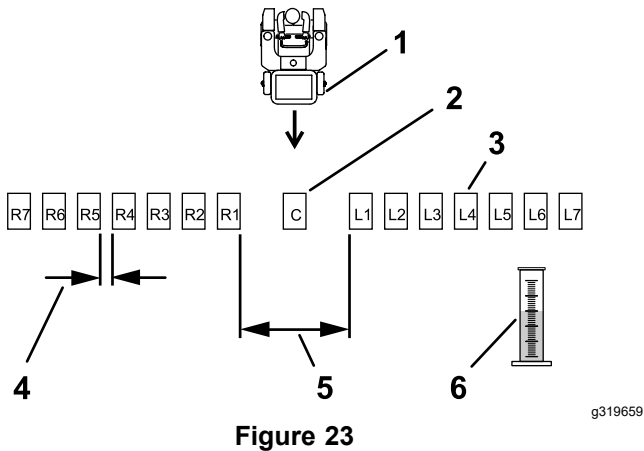
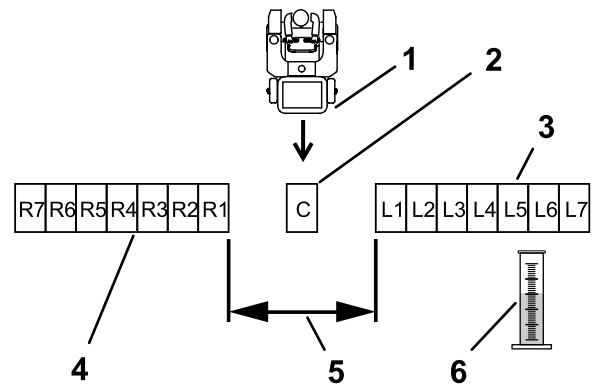

Figure 23
Figure 24
- Place the remaining pans in a straight line as shown in Figure 23 or Figure 24.
Space six additional pans, on each side, 30 cm (12 inches) apart as shown in Figure 23.
Place six additional pans, on each side, with no gap in between each pan (Figure 24).
- Label each graduated measuring cylinder to correspond with the distribution pans (i.e. ...L2, L1, Center, R1, R2....) (refer to Figure 23 and Figure 24).